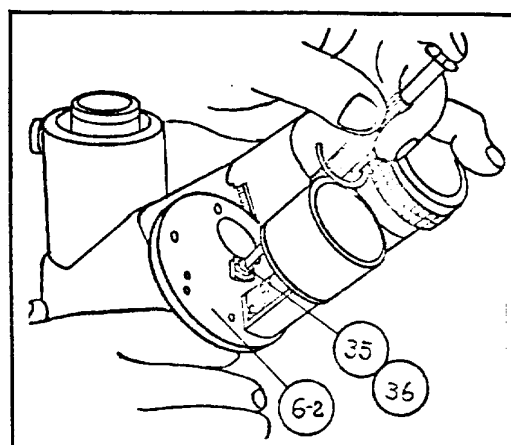

Fig. 10
- 8) Remove the screw (35) and the spring washer (36), take off the sleeve seat (6-2) (Fig. 10).